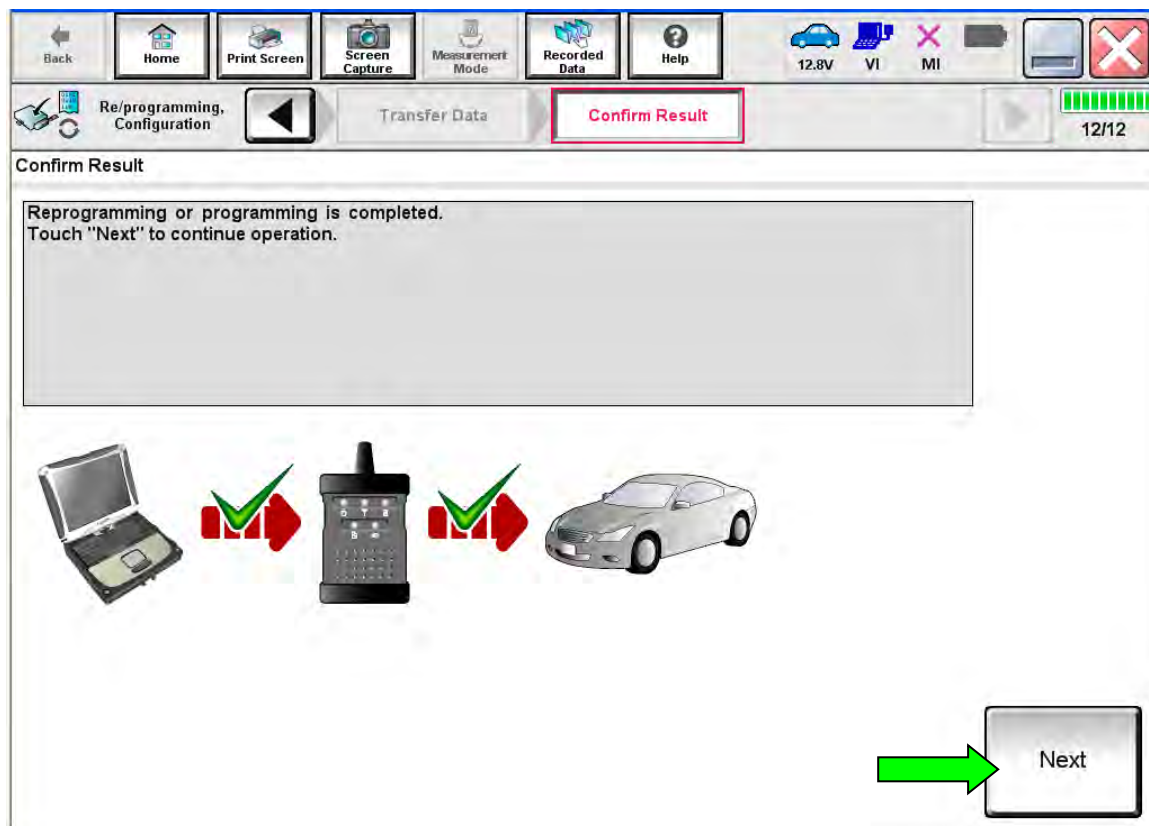

Figure 42
8. When the screen in Figure 42 displays, reprogramming is complete.
NOTE: If the screen in Figure 42 does not display (indicating that reprogramming did not complete), refer to the information on the next page.